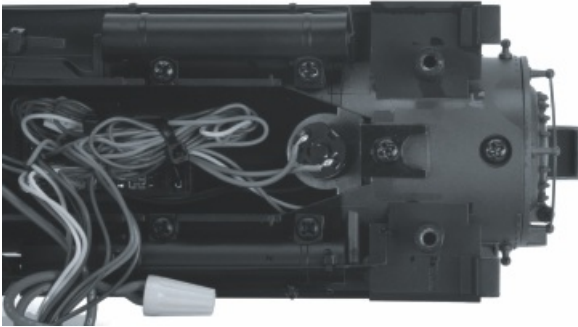

Figure 14
2. Remove the screw securing the smoke unit inside the shell as seen in Fig. 14.
3. With the board free of the mounting screws, slide the assembly out of the boiler as seen in Fig. 14.